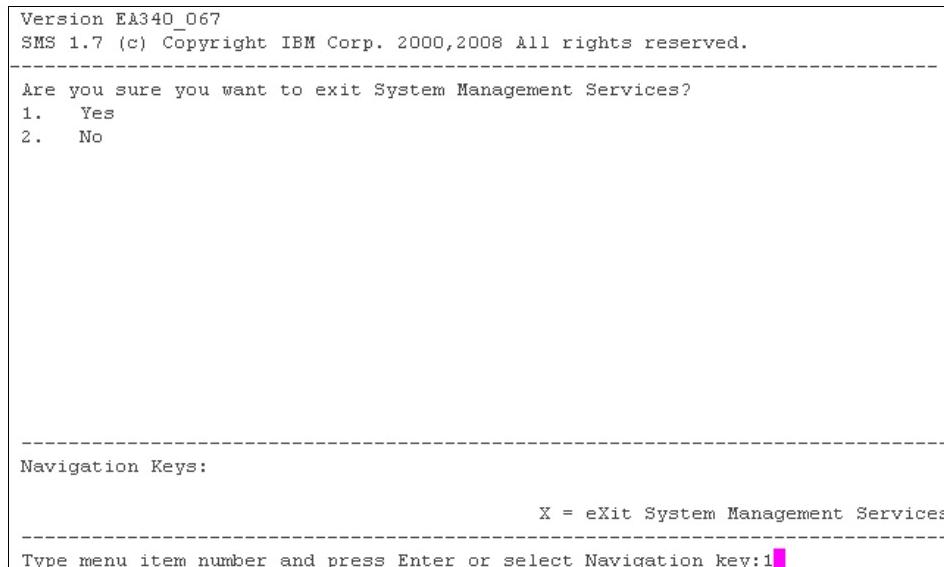

Figure 12-7 SMS exit page
4. Press X → 1 to restart the system, as shown in Figure 12-7.